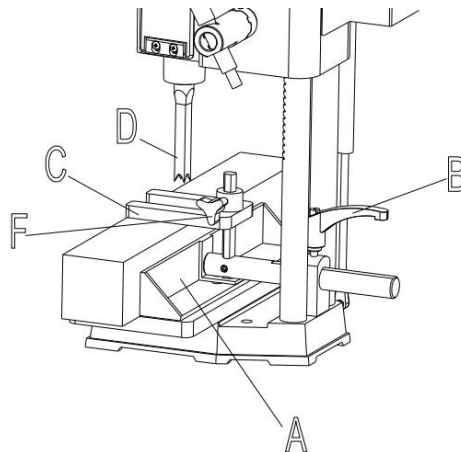

Fig. 10
The fence (A) Fig10, can be moved in or out by loosening lever (B), sliding fence to the desired position and tightening lever (B). NOTE: Lever (B) is spring-loaded and can be repositioned by pulling out on the lever and repositioning it on the serrated nut located underneath the lever.